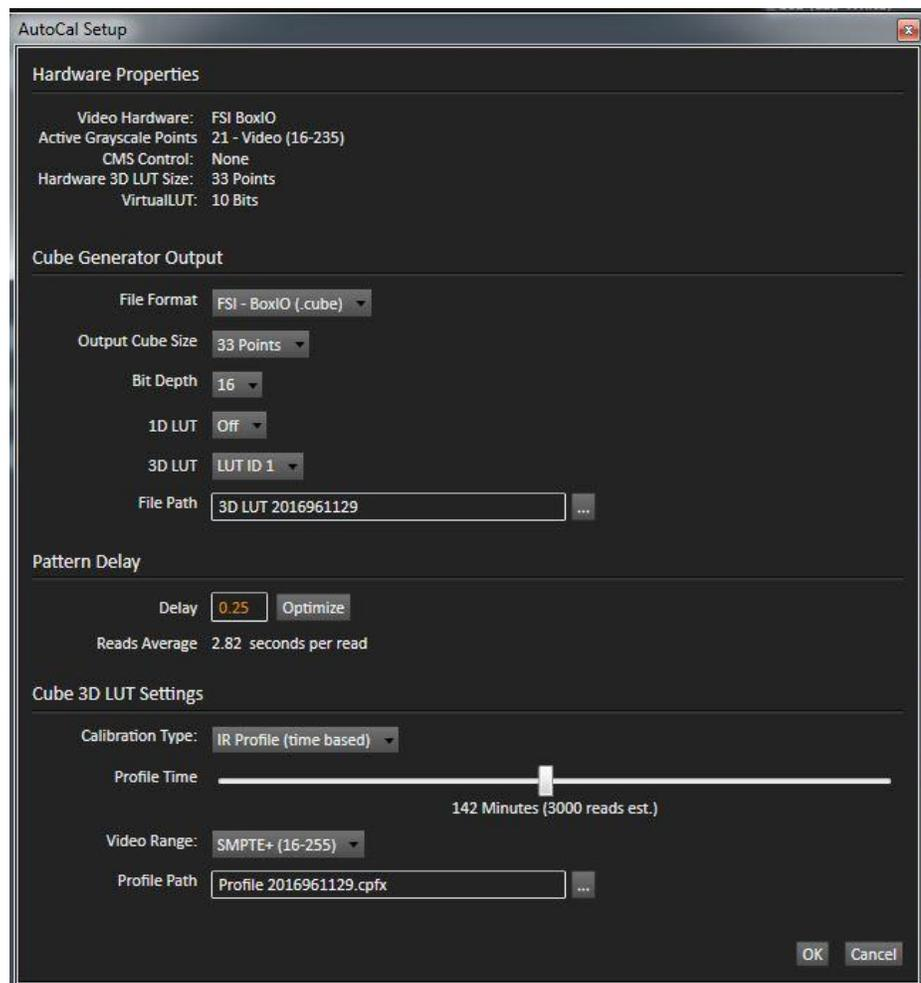

Figure 6. CalMAN AutoCal Setup dialog, for selecting options for 3D LUT creation.
1. On the *3D Cube LUT* page, click the *AutoCal* button (rotating arrows) at the right end of the meter action buttons. The *AutoCal Setup* dialog then appears (Figure 6).